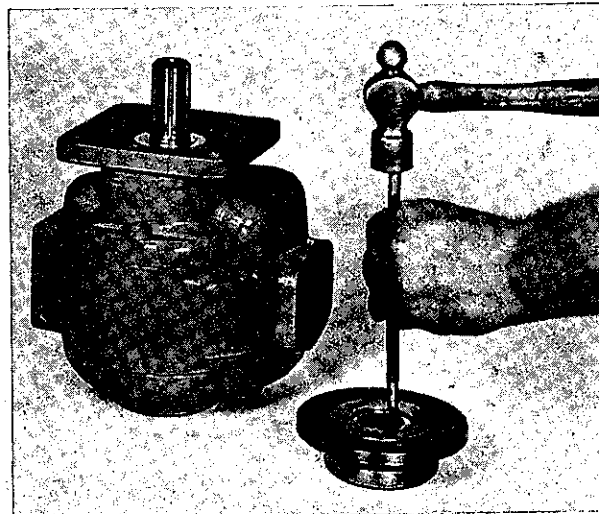

Figure 5
5. TAP or PRESS OUT seal seat from retainer. (See Figure 5).